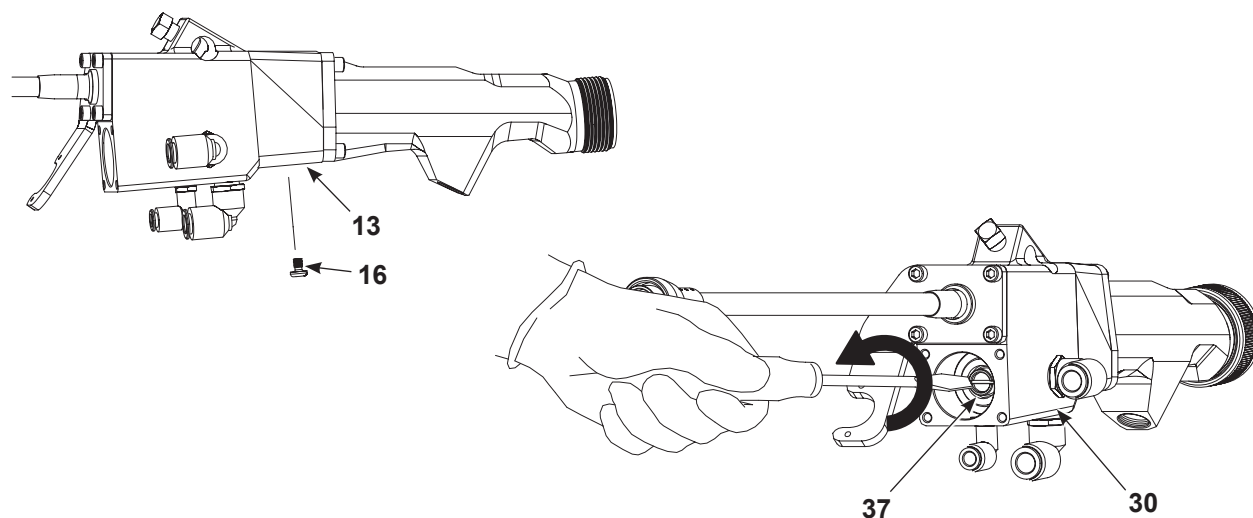
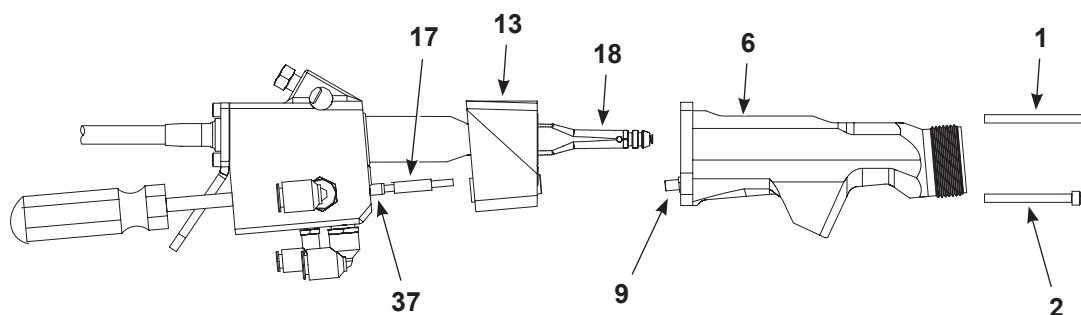

Figure 7-4 Disconnecting the Connecting Rod from the Pull Shaft
Figure 7-5 Removing the Spacer and Piston from the Gun Body
5. See Figure 7-4 and Figure 7-5. Remove the pivot screw (16) from the spacer (13).
7. See Figure 7-5. Remove the four screws (1, 2). Pull the extension (6) off the multiplier (18).
8. Pull the spacer (13) off the adapter link (17) and multiplier. There are three face-seal O-rings (14, 15) on either side of the spacer.
9. Hold the adapter link with a wrench while using a screwdriver as shown in Figure 7-4 to unscrew the connecting rod (37) from the link